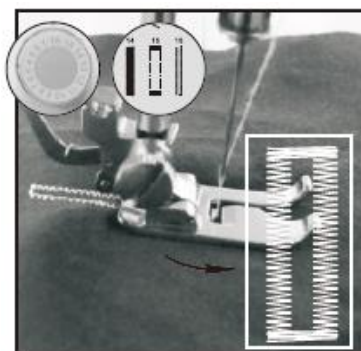

Fig.19
- 6) Choose the 16th stitch, then turn on switch and sew till buttonhole is fully sewed (Fig.19).